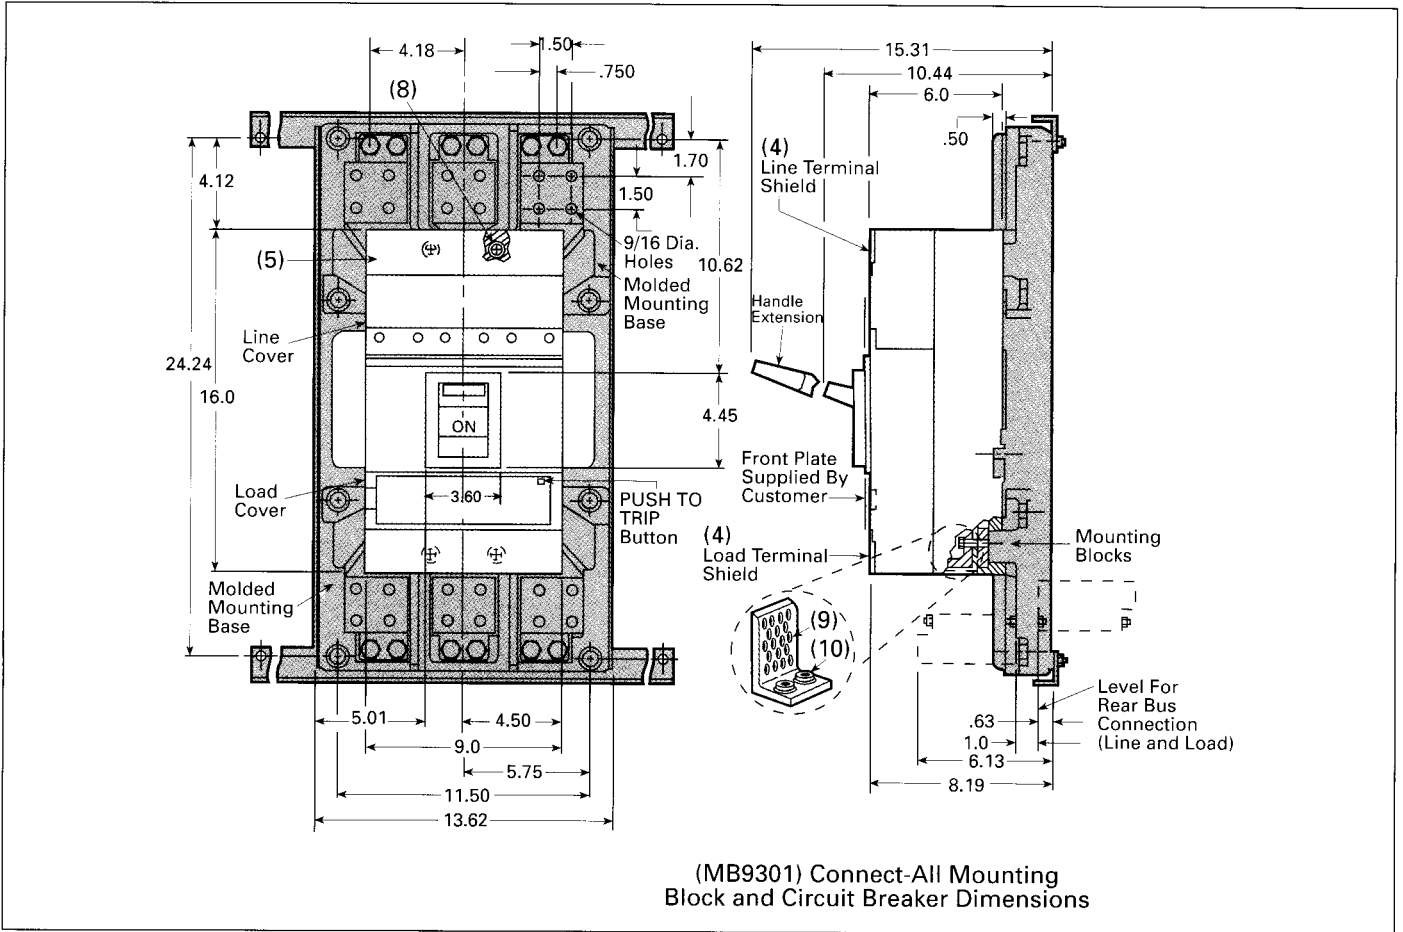

Figure 3
- C. Make sure the device is in the tripped or off position. For circuit breakers, depress the red trip button (see Figures 3 and 5) or turn breaker off.
- Remove the load and line terminal shields (4) by loosening the two terminal shield screws (5). Also remove end plates (6). See Figures 3 and 5.
- Place breaker onto protruding connect-all assembly terminals (7), see Figures 2 and 4, and fasten breaker to molded mounting base with four slotted fillister head 3/8-16 x 1-3/4 long screws, washers and lockwashers (8), see Figures 3 and 5. Tighten mounting screws to a torque of 5 to 6 ft-lbs.
- Mount heatsink (9) with two hex head 3/8-16 x 1-3/4 long copper alloy bolts, washers and lock washers (10) per terminal. Tighten these bolts to a torque of 9 to 10 ft-lbs.